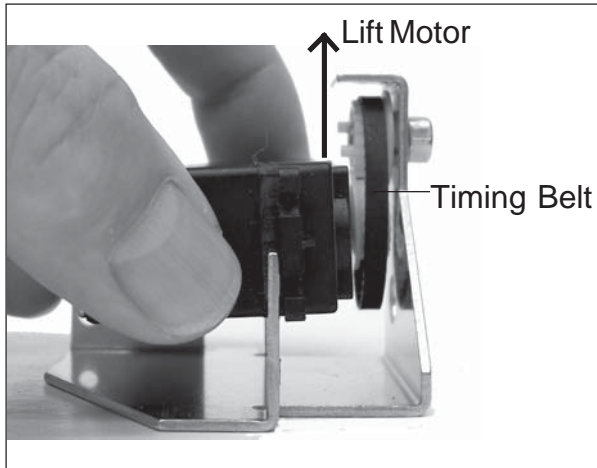

Figure 3-15. Disengage Timing Belt.
2. Refer to Figure 3-15 and lift the Motor up from the InCal Mechanism just enough to disengage the Timing Belt.
3. Refer to Figure 3-15, lift the Motor slightly and position the Timing Belt on the Top Gear as shown.